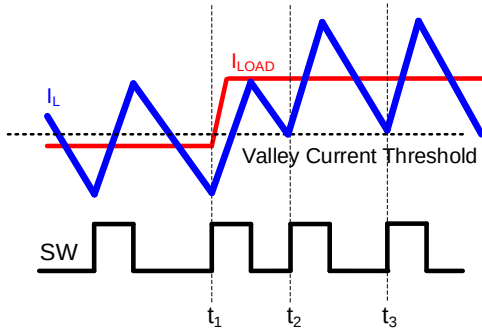

Figure 19: Valley Current Limit Protection
Figure 19 shows valley current limit protection. The load current increases at t_1 . To support the additional current, the inductor current (I_L) ramps up after a fixed on time, with a shorter HS-FET off time. The HS-FET cannot turn on again until the low-side (LS) current reaches the valley current threshold.